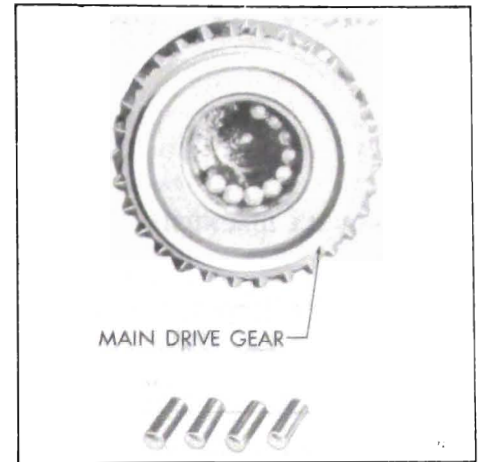

Figure 72-36 - Installing Needle Roller Bearings
5. Install fourteen (14) needle bearings in main drive gear, using heavy grease to hold the bearings in place. See Figure 72-36.